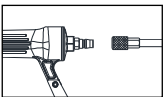

Fig.2
2. Attach a high flow quick connect fitting to the tool. (See Fig. 2)
See Fig. 2 Adjust the slide to Single firing.